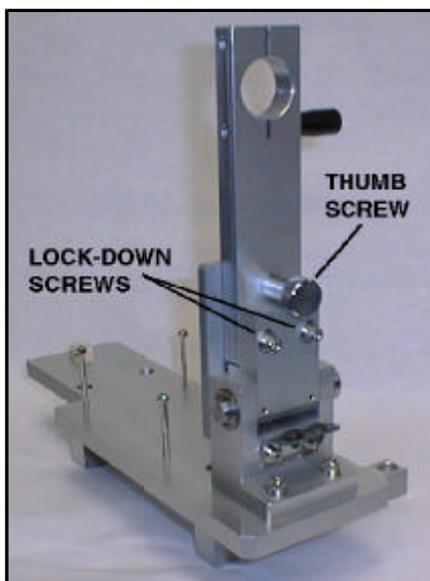

Figure 2-14. Microscope adjustments.
- 2) Determine the adjustment direction to center the microscope crosshair on the pinhole jig. Adjustments available for the microscope assembly are as follows (refer to Figure 2-14): To move the microscope left and right, or up and down, loosen the thumb screw and the two lock-down screws located just below the thumb screw. (Do not remove the thumb screw.) There is also a slight left and right twisting movement available when these two lock-down screws are used. Tighten one and loosen the other for this twisting action.